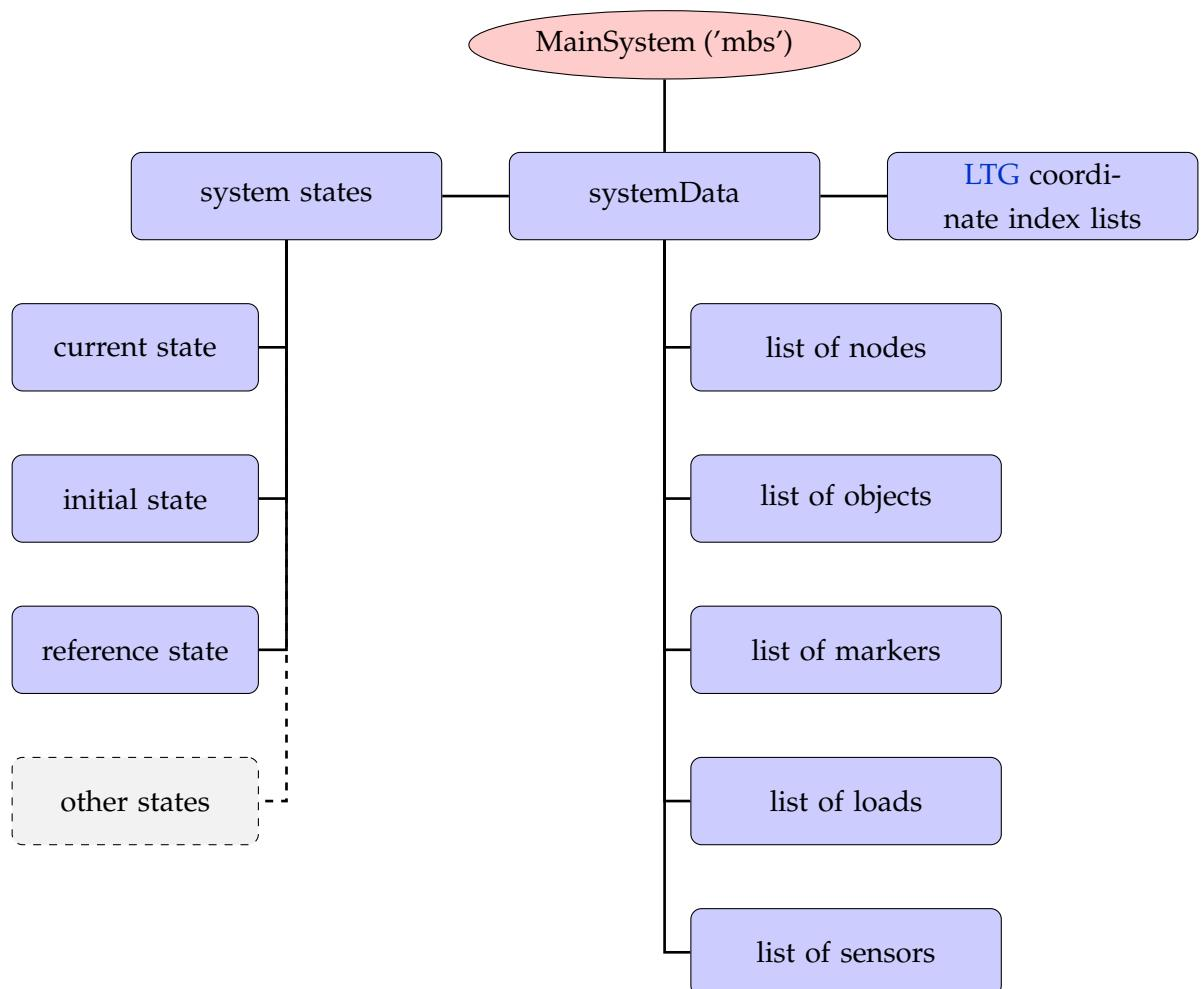

Figure 2.3: Overview of systemData, which connects items, states and stores the LTG. Note that access to items is provided via functions in `system`.
- `mbs.systemData`: contains the initial, current, visualization, ... states of the system and holds the items, see Fig. 2.3